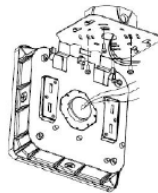

Figure 9
4. Hang the luminaire onto the mounting plate hooks, and then connect the black, white and yellow / green luminaire wires to incoming power wires (black to line, white to neutral, and yellow / green to ground). See Figure 9 and wiring Diagrams.